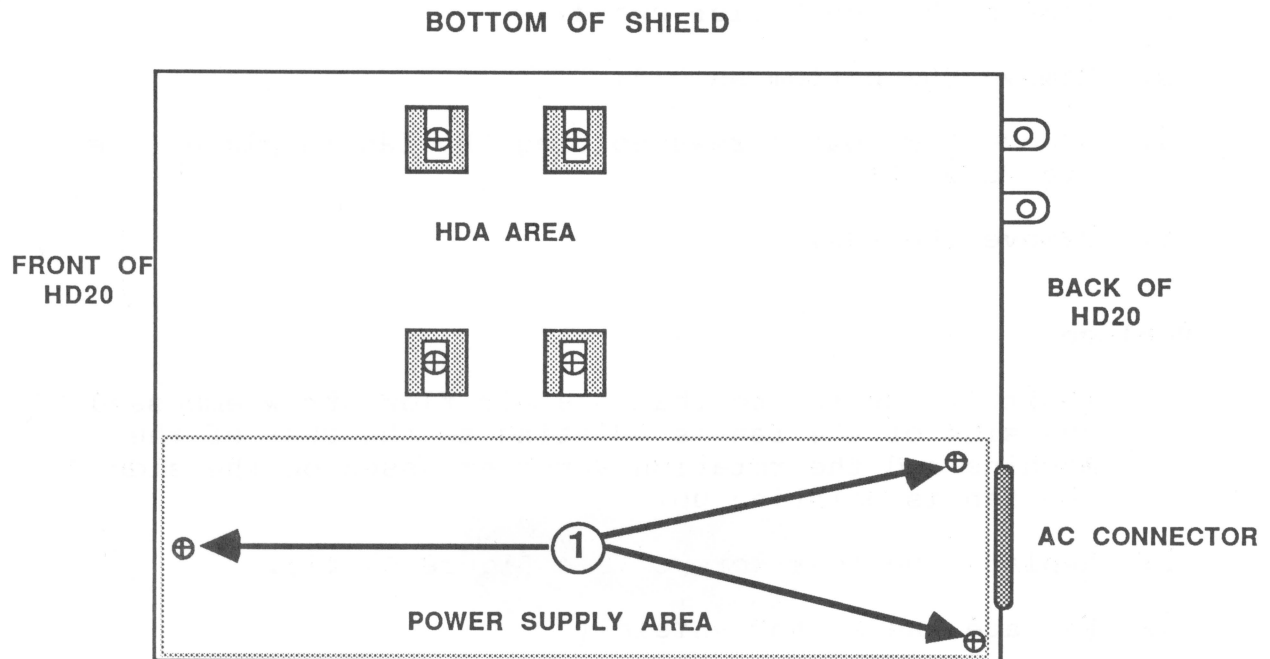

FIGURE 7
5. Remove the three screws (see Figure 7, #1).
2. Replace the three screws (see Figure 7, #1).